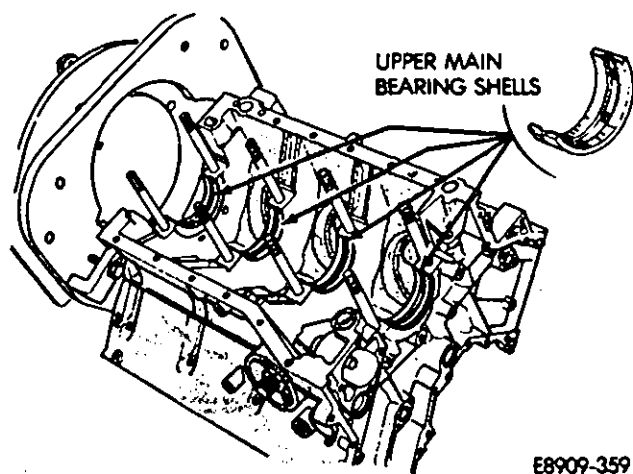

Fig. 12—Upper Main Bearing Shells
- (29) Remove upper main bearing shells (Fig. 12). When removing the upper main bearing shells, mark the bearing number (1, 2, 3 and 4) on the back of the shell and keep it with the accompanying main bearing cap and lower bearing shell.